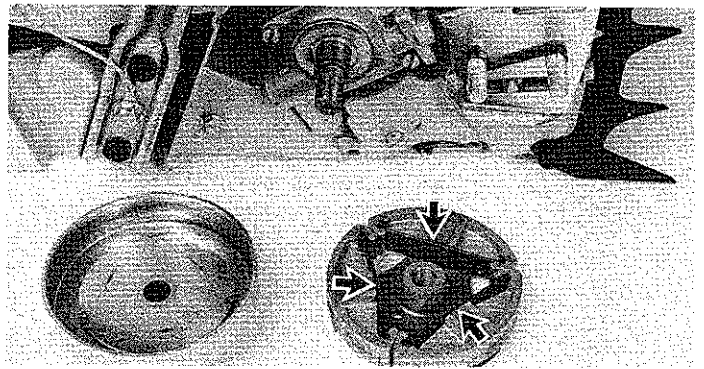
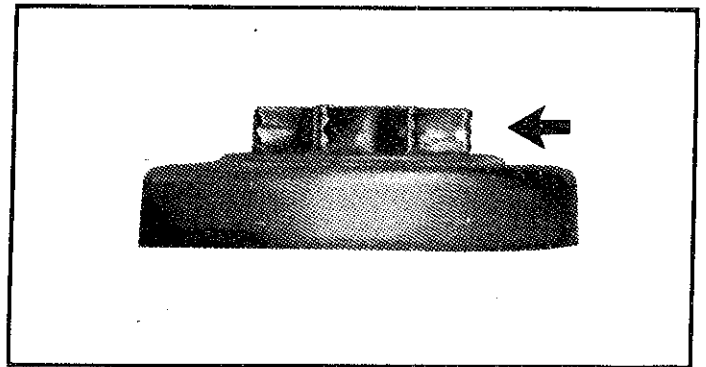

Figure 17
Figure 18
4. Remove the clutch drum and sprocket and inspect for wear. Replace if necessary. Inspect the clutch shoes and springs. Replace any that are broken or worn. Figure 17. Replace the clutch in a counterclockwise direction. Replace high tension lead and cylinder cover. Inspect the chain sprocket regularly for wear; a worn sprocket will make the chain run erratically and will shorten the life of the bar and chain. Figure 18.